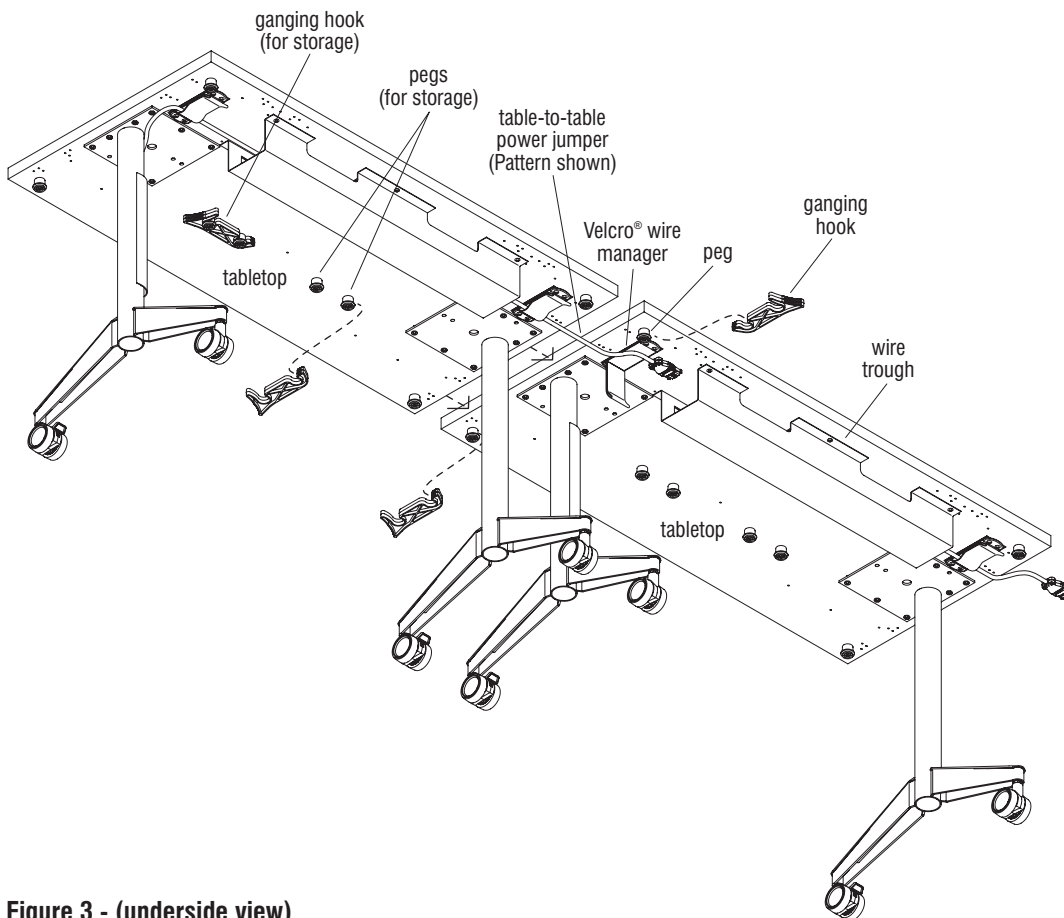

Figure 3 - (underside view)
1. Move the two tables to be ganged together side-to-side, such that the two pair of ganging pegs face each other. As illustrated, position and snap the two ganging hooks onto their respective ganging pegs, then swing the hooks to the opposite peg to securely gang tables together (Figure 3 & Detail A).
2. Position and snap any extra pegs onto the pegs for storage on the front user side of the table. For ganging hook storage when tables are not paired, disconnect the table edge ganging hooks and move them to the pegs mounted to the front user side of the table (Figure 3).
3. Once mechanically joined together securely, tables with Pattern electrical systems may now have their table-to-table connections made. If the tables are using Pattern, route the Pattern table-to-table power jumper from one table over to the second. Connect the male end of the jumper to the closest Pattern power distribution block. Repeat step 3 to make the remaining power connections for the remaining tables (Figure 3).
4. Strap in the desired cords using the installed Velcro wire manager (Figure 3).